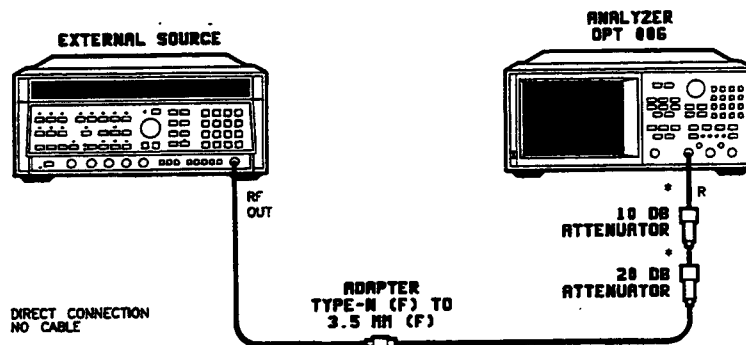

Figure 31. HP 8753B/C, HP 8702B Option 006 Minimum R Level Test Setup
1. Connect the equipment as shown in Figure 31.